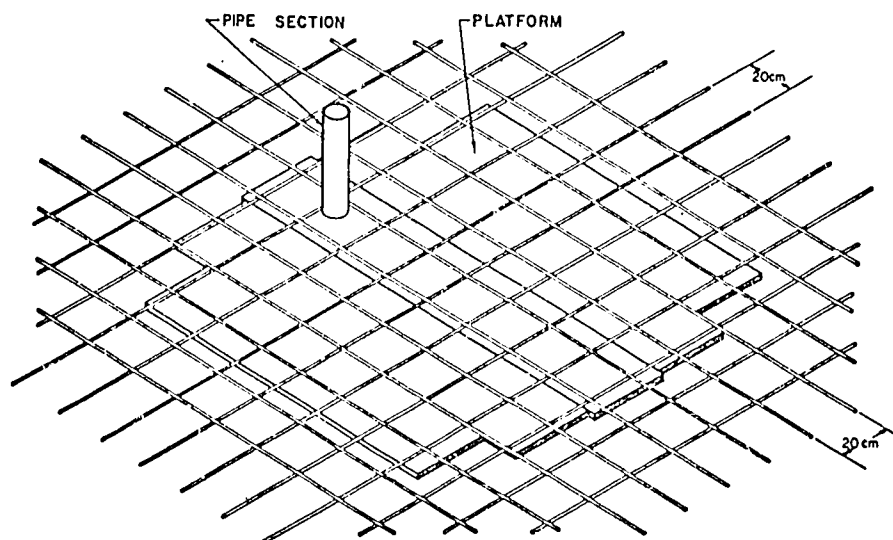

Figure 3. Reinforcement for Dug Wells.
Lay out ten (10) mm diameter reinforcing bars on twenty (20) cm centers. The bars should extend fifty (50) cm beyond the edge of the well on either side. After the bars have been cut to length and placed on center, tie them together with 16-gauge tying wire. The bars are then raised 1-1/2 to 2 cm above the planking by placing small rocks under the reinforcing bar framework. The well should now look like Figure 3.